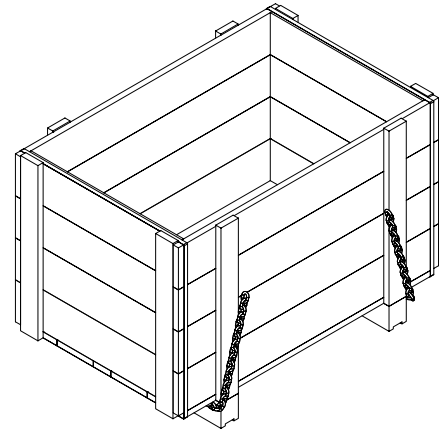

Fig. H1.01
- Only use designated transport crates for transportation and storage. (Fig. H1.01)